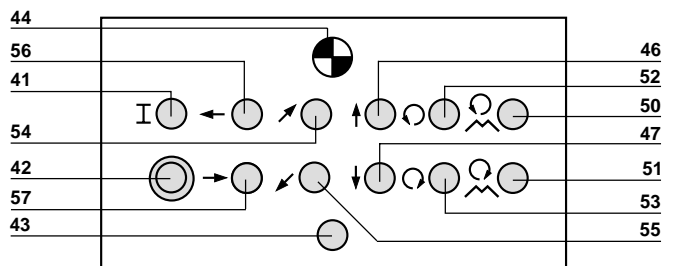

Fig. 10 - Cradle control
- 1 main control panel in the cradle (Fig. 10), connected to the trolley by a flexible cable.